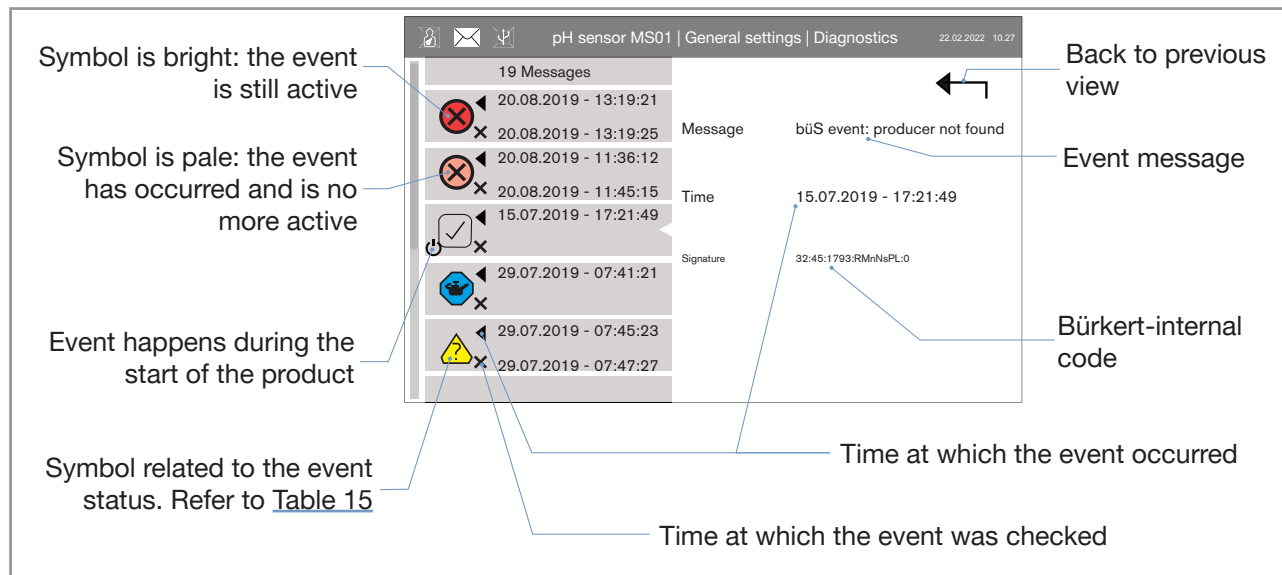

Fig. 20: Overview of events in the logbook
- ✓ The events that are related to the product are displayed. Refer to Fig. 20.